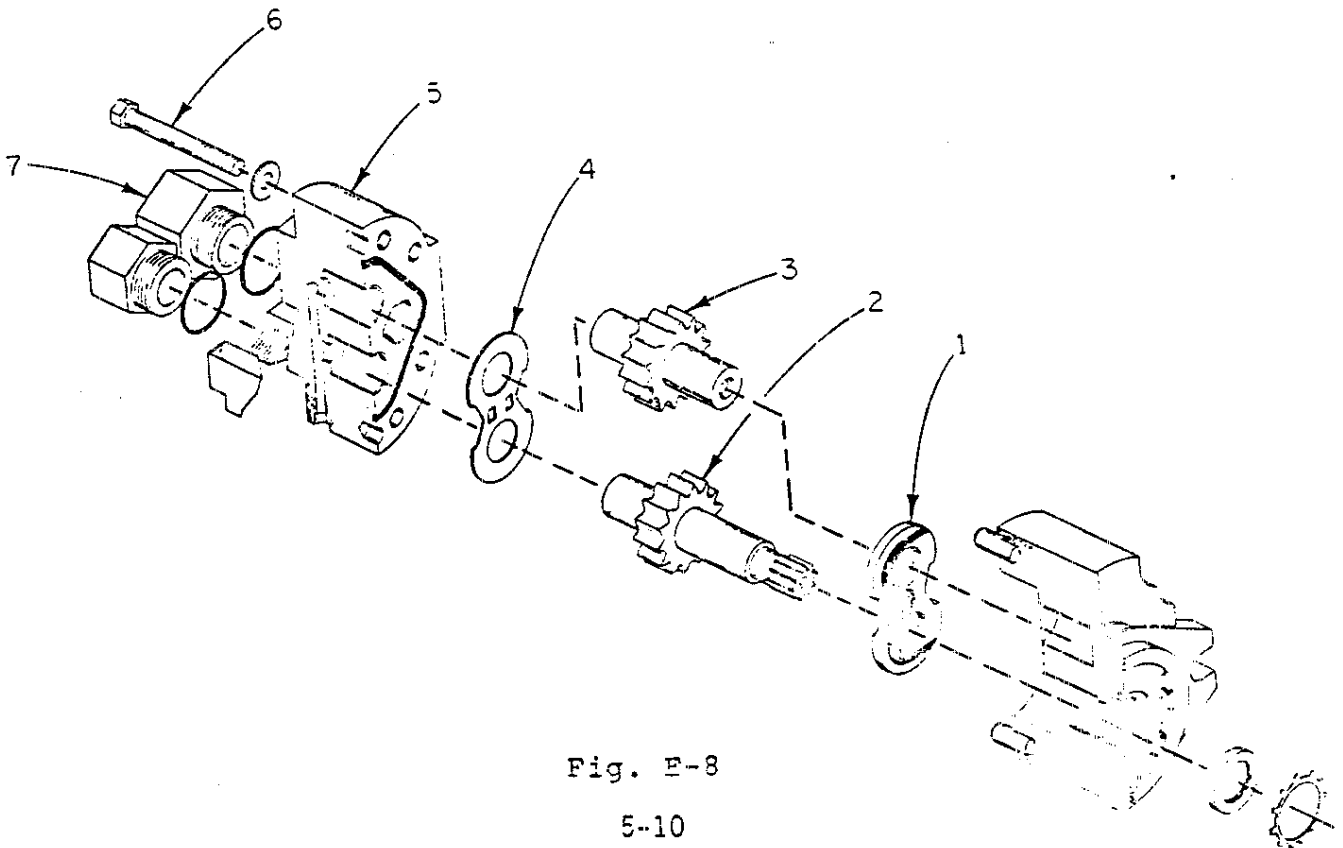

Fig. E-8
4. Install pump, insure that correct rotation is employed. See Hydraulic Pump (Fig. E-8, page 5-10).